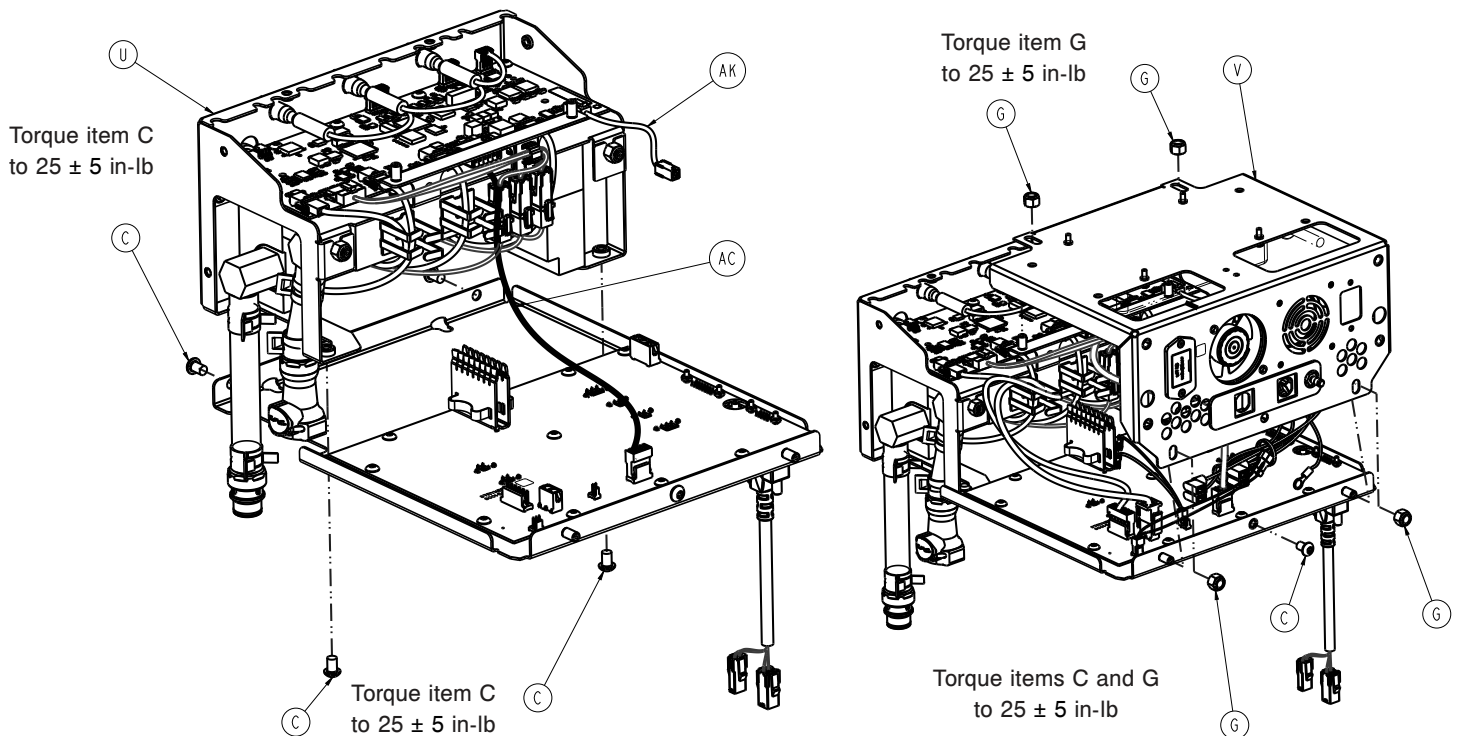

Figure 39 – Manifold assembly
17. Using a T27 Torx driver, remove the four screws (C) that secure the manifold assembly (U) to the control assembly (Figure 39). Save the screws.